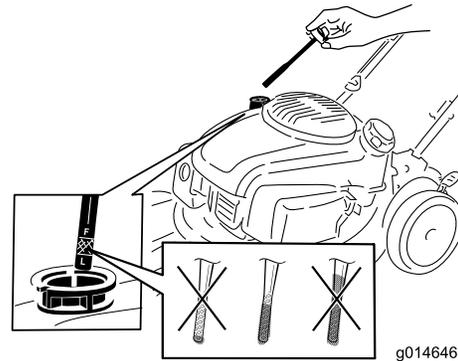

Figure 4
1. Remove the dipstick (Figure 4).
2. **Slowly** pour oil into the oil fill tube until the oil level reaches the Full line on the dipstick (Figure 4). **Do not overfill.** (Max. fill: 22 oz. (0.65 l), type: 10W-30 or SAE 30 detergent oil with an API service classification of SJ or higher.)
**Note:** Each time you check the oil level, remove the dipstick and wipe it clean, insert it into the oil filler neck (but **do not** screw it in), then remove it again and check the level (Figure 4).